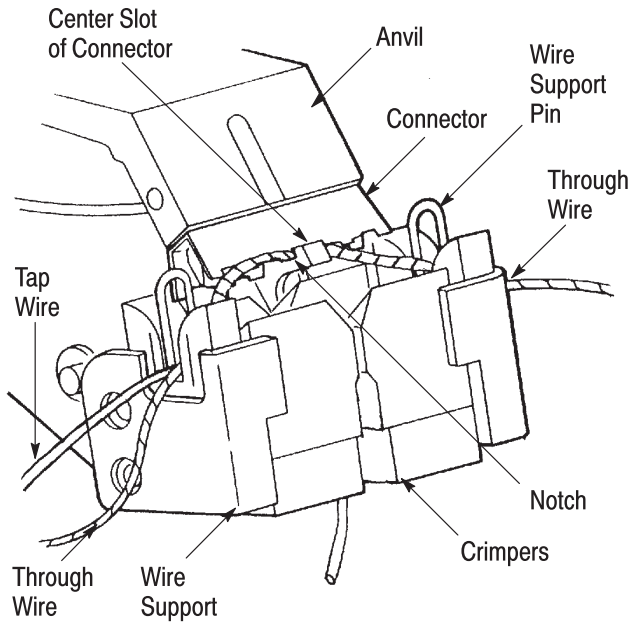

Figure 3
3.2. Tap Splice (See Figure 3)